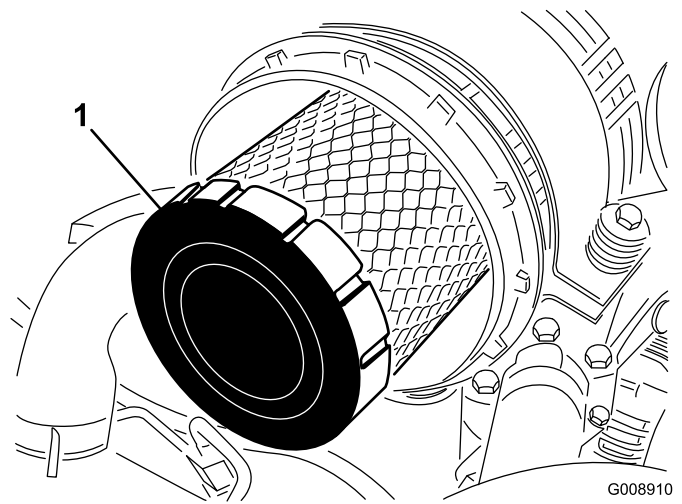

Figure 60
4. Remove and replace the primary filter (Figure 60).